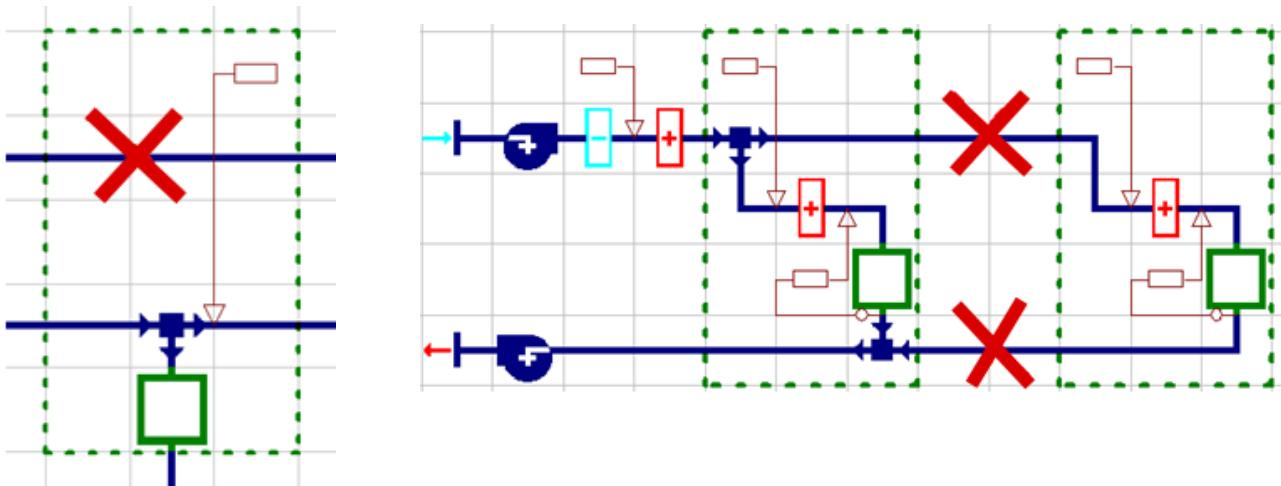

Figure 6-3: Disallowed use of connector segments through a multiplex and between multiplexes
- A multiplex must not contain any sections of a network that consist only of connectors (see Figure 6-3 below).
- Any connection between multiplexes must contain at least one component or junction so that nodes can be generated (see Figure 6-3 below).
Figure 6-3 provides examples of network branches consisting solely of connecting segments that are not permitted within a multiplex. In cases such as that shown on the left, either re-route the connectors around the anticipated multiplex region or move the controller box downwards so that the multiplex with not overlap the upper path. Direct connections between multiplexes consisting solely of connecting segments (straight or elbow), such as illustrated on the right-hand side of this figure, are not permitted. The network must be revised so that there is a junction or other component between the multiplexes.